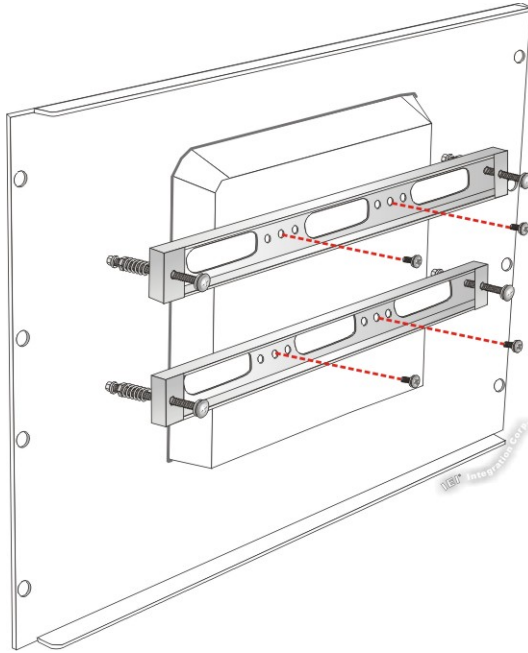

Figure 3-29: Securing Rack Mounting Brackets
- Step 5:** Secure the two rack mounting brackets to the rear of the panel PC by inserting the four retention screws into the VESA mounting holes and tightening them (Figure 3-29).